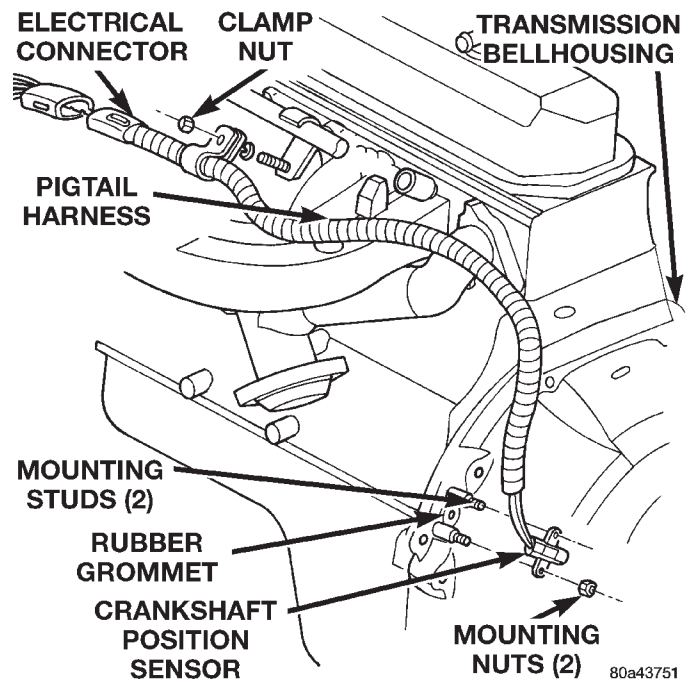
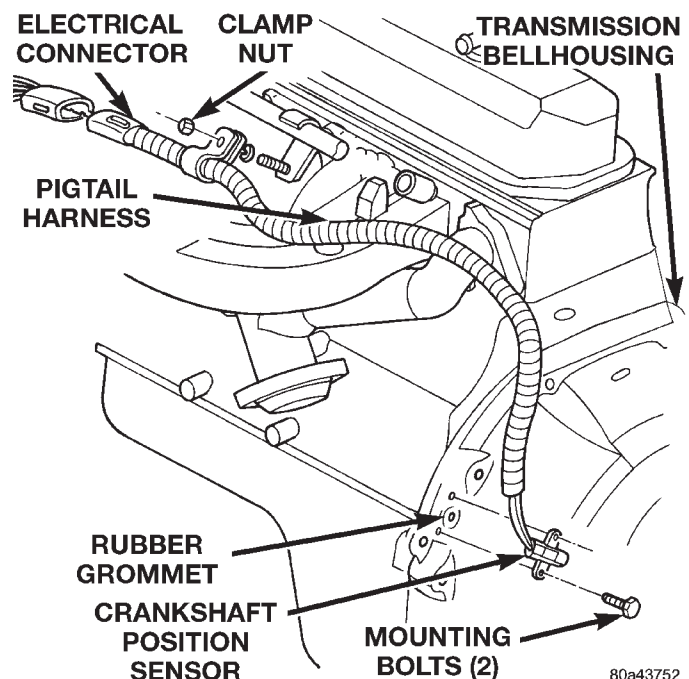

Fig. 6 Crankshaft Position Sensor—2.5L Engine
Fig. 7 Crankshaft Position Sensor —4.0L Engine
- (7) Mark front propeller shaft, axle, and transfer case yokes for installation alignment, if equipped.
- (8) Remove propeller shaft(s).
- (9) Unclip wire harnesses from transmission and transfer case, if equipped.
- (10) Disconnect transfer case vent hose, if equipped.
- (11) Disengage any wire connectors attached to transmission or transfer case, if equipped, components.
- (12) Support transfer case, if equipped, with transmission jack.
(13) Secure transfer case, if equipped, to jack with safety chains.
(14) Disconnect transfer case shift linkage at transfer case, if equipped.
(15) Remove nuts attaching transfer case to transmission, if equipped.
(16) Remove transfer case, if equipped.
(17) Remove crankshaft position sensor (Fig. 6), (Fig. 7).